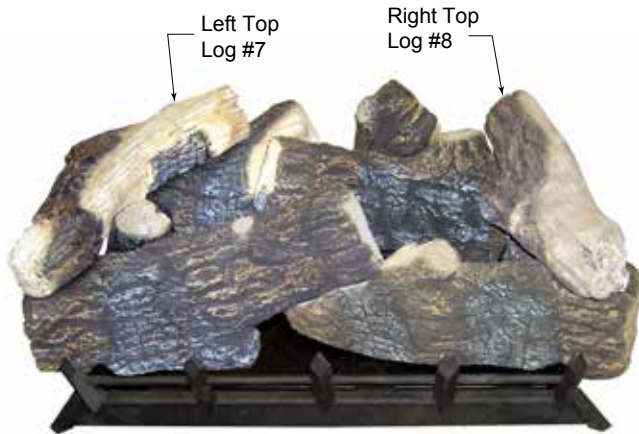

Figure 28 - Place Right Top Log #8
8. Place right top log (#8) onto right rear (#3) and right front (#2) logs using locator on bottom of right top log. *Figure 28*